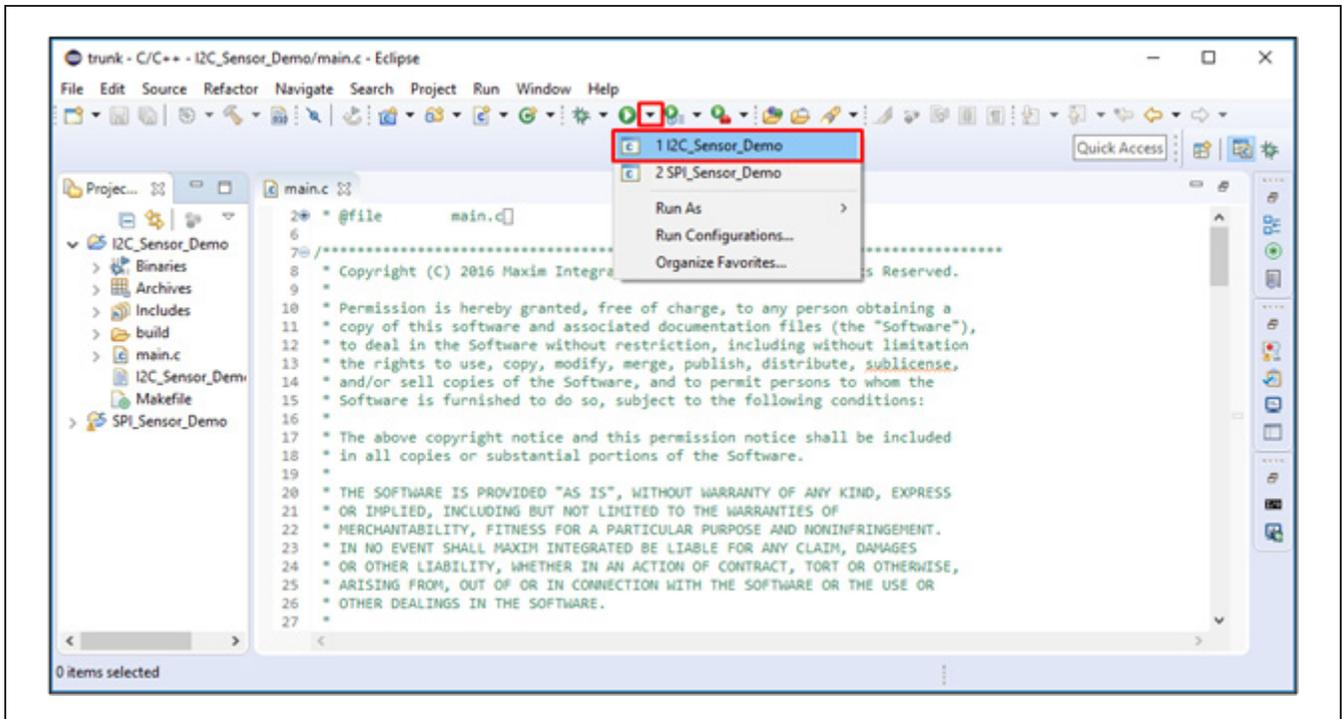
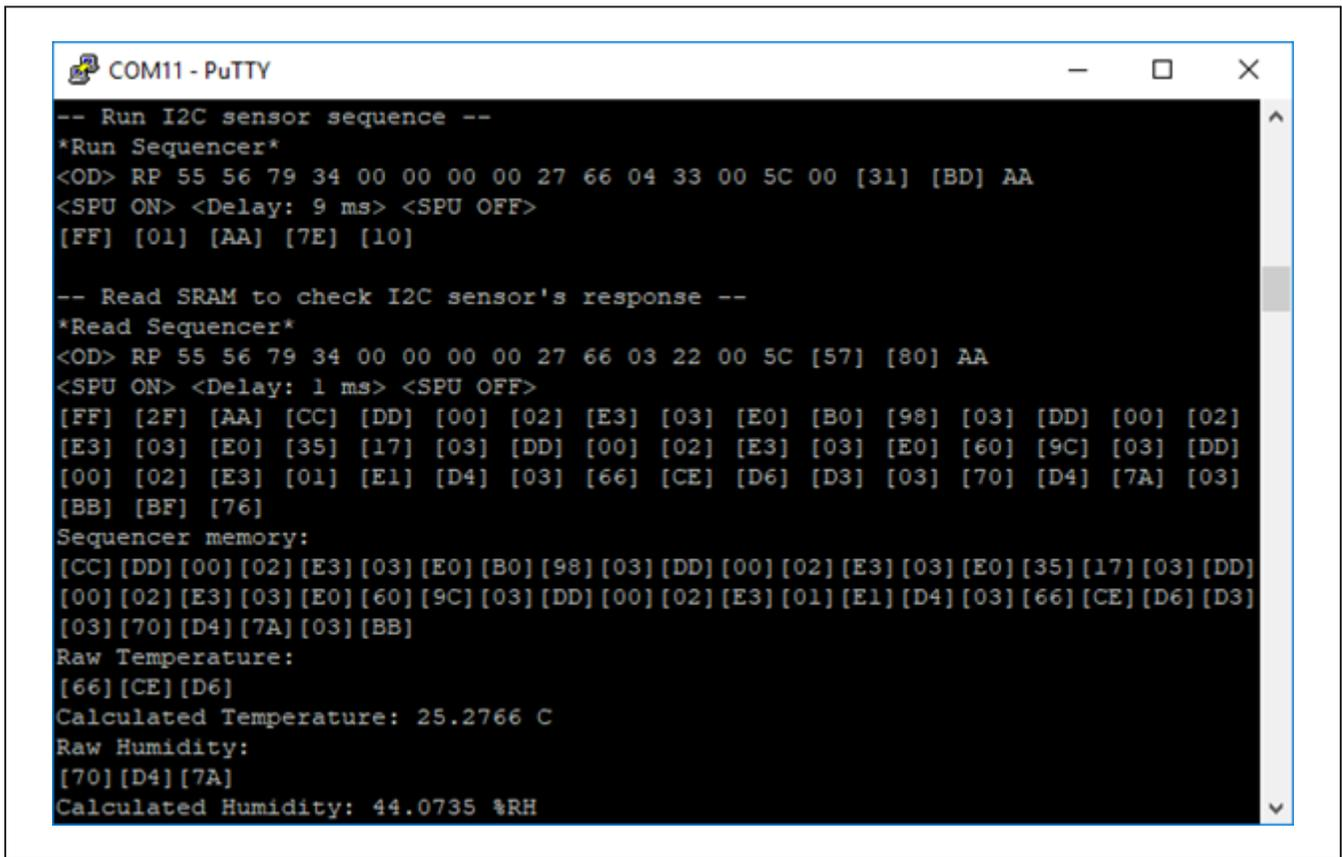

Figure 9. Running I2C_Sensor_Demo example program.
Figure 10. Console output for I2C_Sensor_Demo example program.
9) Select the example program to run under the dropdown located next to the green Run button (Figure 9). The output is displayed on the serial console (Figure 10).